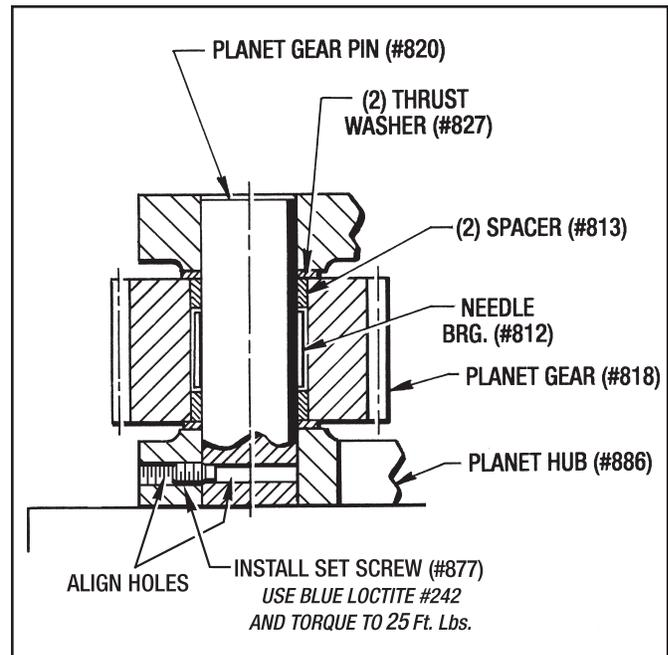

Figure 9.22 - Installing Planet Gears
A. QUADRATURE ENCODER (See Figure 9.22)
2. Position the Encoder (#355) so the (2) mounting holes are lined up with the holes in the housing. Insert the Sensor into the slot and attach with (2) Screws (#226).
2. Insert the Magnetic Pick-Up Sensor (#22) into the hole with the **Scribed Line** in position as shown in Figure 9.22, View A-A.
- Place the Planet Hub (#886) on a table with the shaft end pointed up. (See Figure 9.22)
- Slide each assembled Planet Gear into the opening with a Thrust Washer (#827) on the top and bottom. Align all (3) parts with the planet gear pin hole.
- Screw each Set Screw (#877) into the Planet Hub (#886) until it bottoms out into the hole in the Planet Gear Pin (#820). (See Figure 9.22) **Use Blue Loctite #242 and torque to 25 Ft. Lbs.**